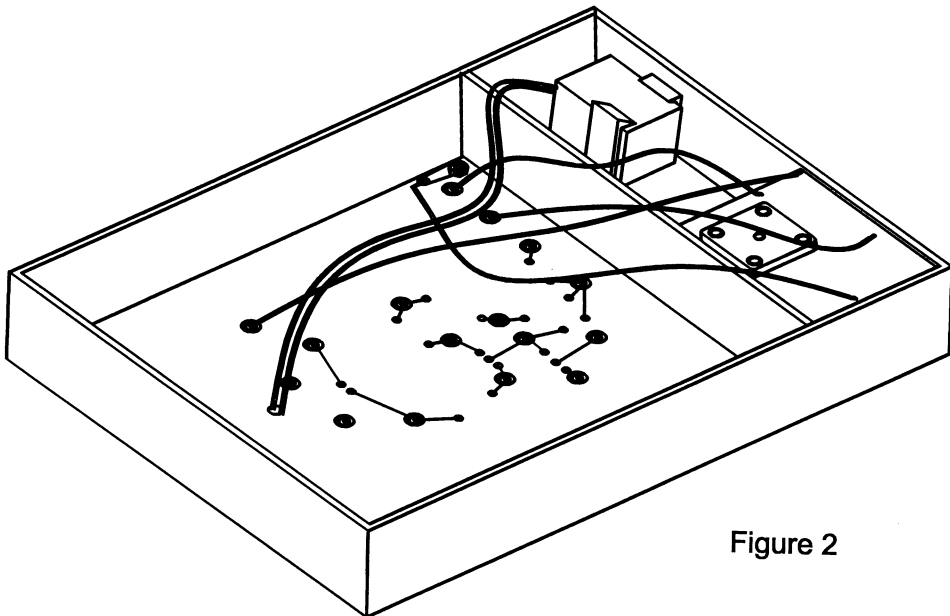

Figure 2
3. Turn the Board upside down and compare your wire connections to Figure 2.